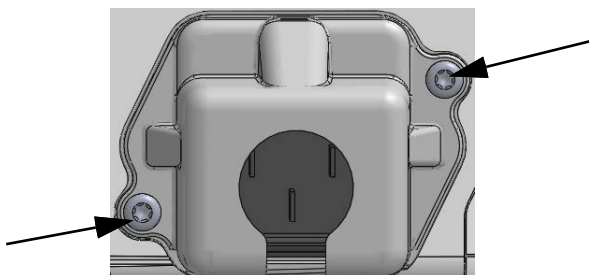

Figure 3-5 HemoSphere Vita monitor power entry cover - screw locations
- 1 If the power entry cover is already installed, remove the two screws (figure 3-5) that attach the power entry cover to the rear panel of the monitor.